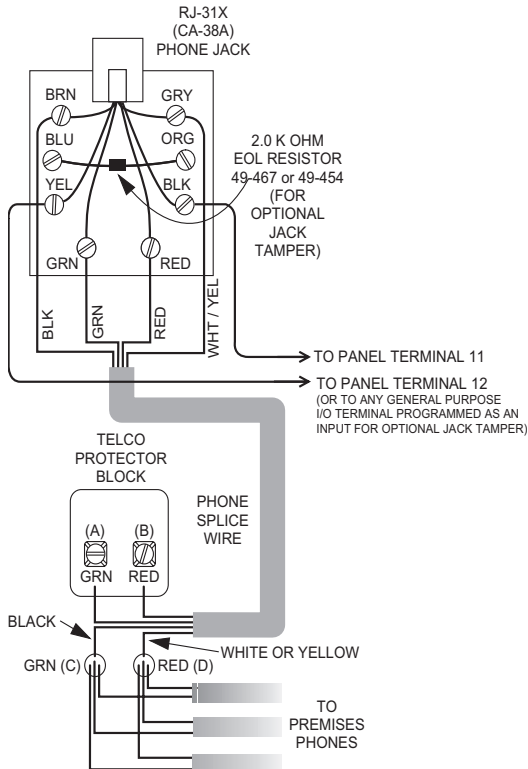

Figure 18. Installing an RJ-31X Phone Jack
1. Run a 4-conductor cable from the TELCO protector block to the jack location (see Figure 18).
4. Connect the green and red wires from the 4-conductor cable to the A (+) and B (-) posts on the block (see Figure 18).
5. If desired, add phone jack tamper by splicing the black and yellow phone jack wires to the panel terminals and adding a 2.0K ohm EOL resistor between the blue and orange phone jack terminals as shown in Figure 18.